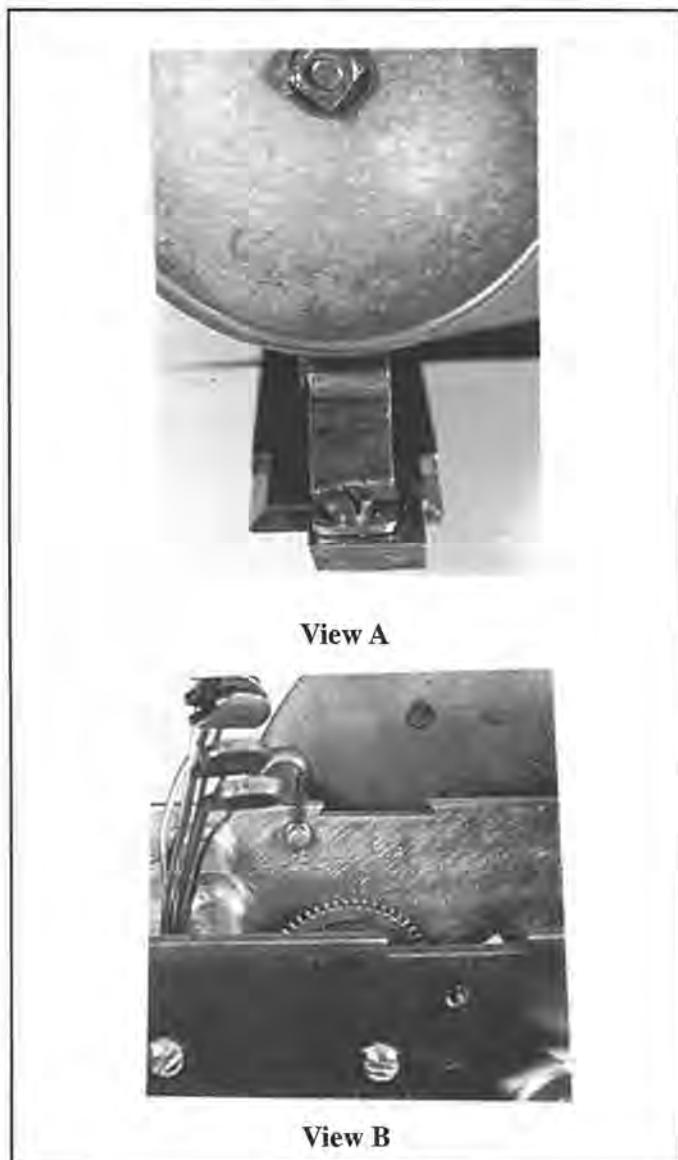

Figure 36.6. Bell Stack Mounting
39.1. Guide bell stack mount (shown in Figure 36.5 - 36.6, view A but not numbered) into the keystone slot in the front plate, and the rectangular slot in the back plate (Figure 36.6, view B).